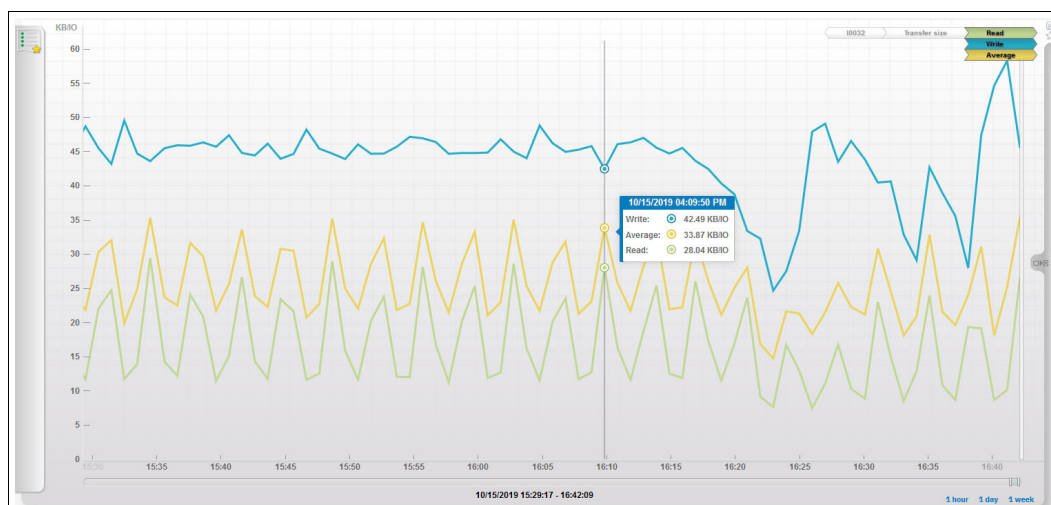

Figure 9-125 Fibre Channel Port performance graph
4. Draw the graph. Figure 9-125 shows the completed graph.